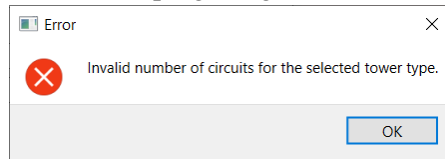

Figure 2: Error Message
- i. The number of circuits cannot be different than 1 for Type-1 and Type-2 tower types and between 1 and 2 for Type-3. When a different input is entered, the program gives an error message. It can be seen in Figure 2.